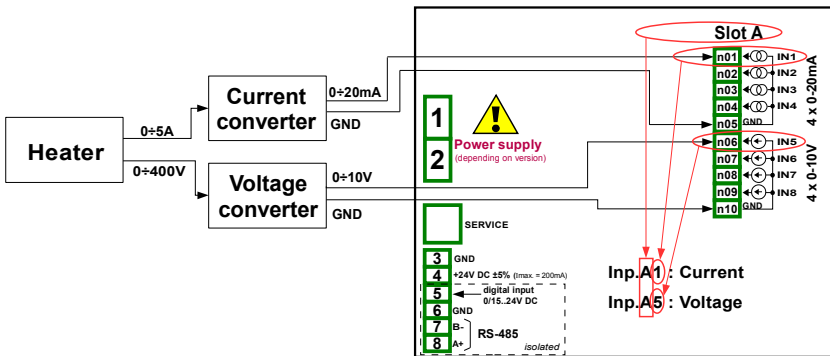

Fig. 7.62. Schematic diagram for the **UI4** module
First configure the device as described below, then connect the heater to converters and then to the device (in accordance with **Fig. 7.62**).
- **Source** parameter set as **Inp. A1: Current** (see the connection in **Fig. 7.62**),
- **Source** parameter set as **Inp. A5: Voltage** (see the connection in **Fig. 7.62**),